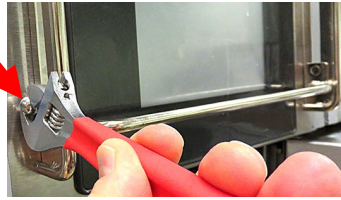

Figure 9
2. Remove the acorn nuts, washer and plates on both ends of the guard if applicable (see Figure 9) and discard.